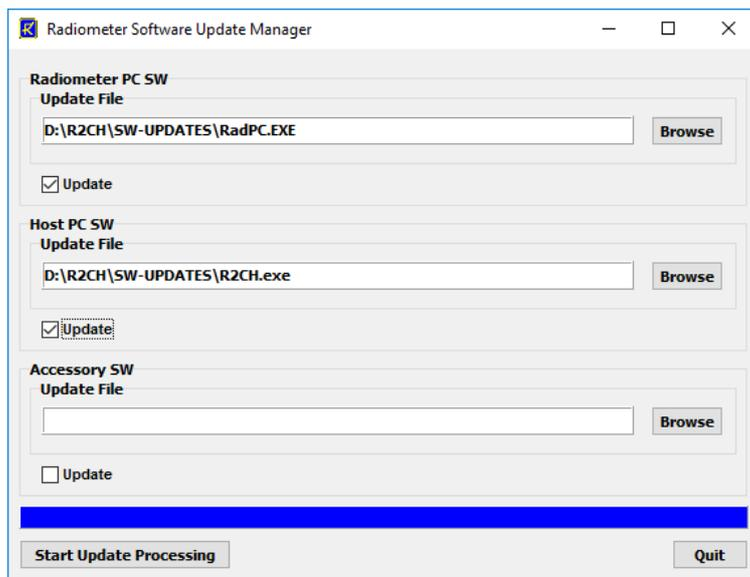

Fig.4.2.2: Software Update Manager window
- Enter the Software Update Manager ( , Fig 4.2.2).